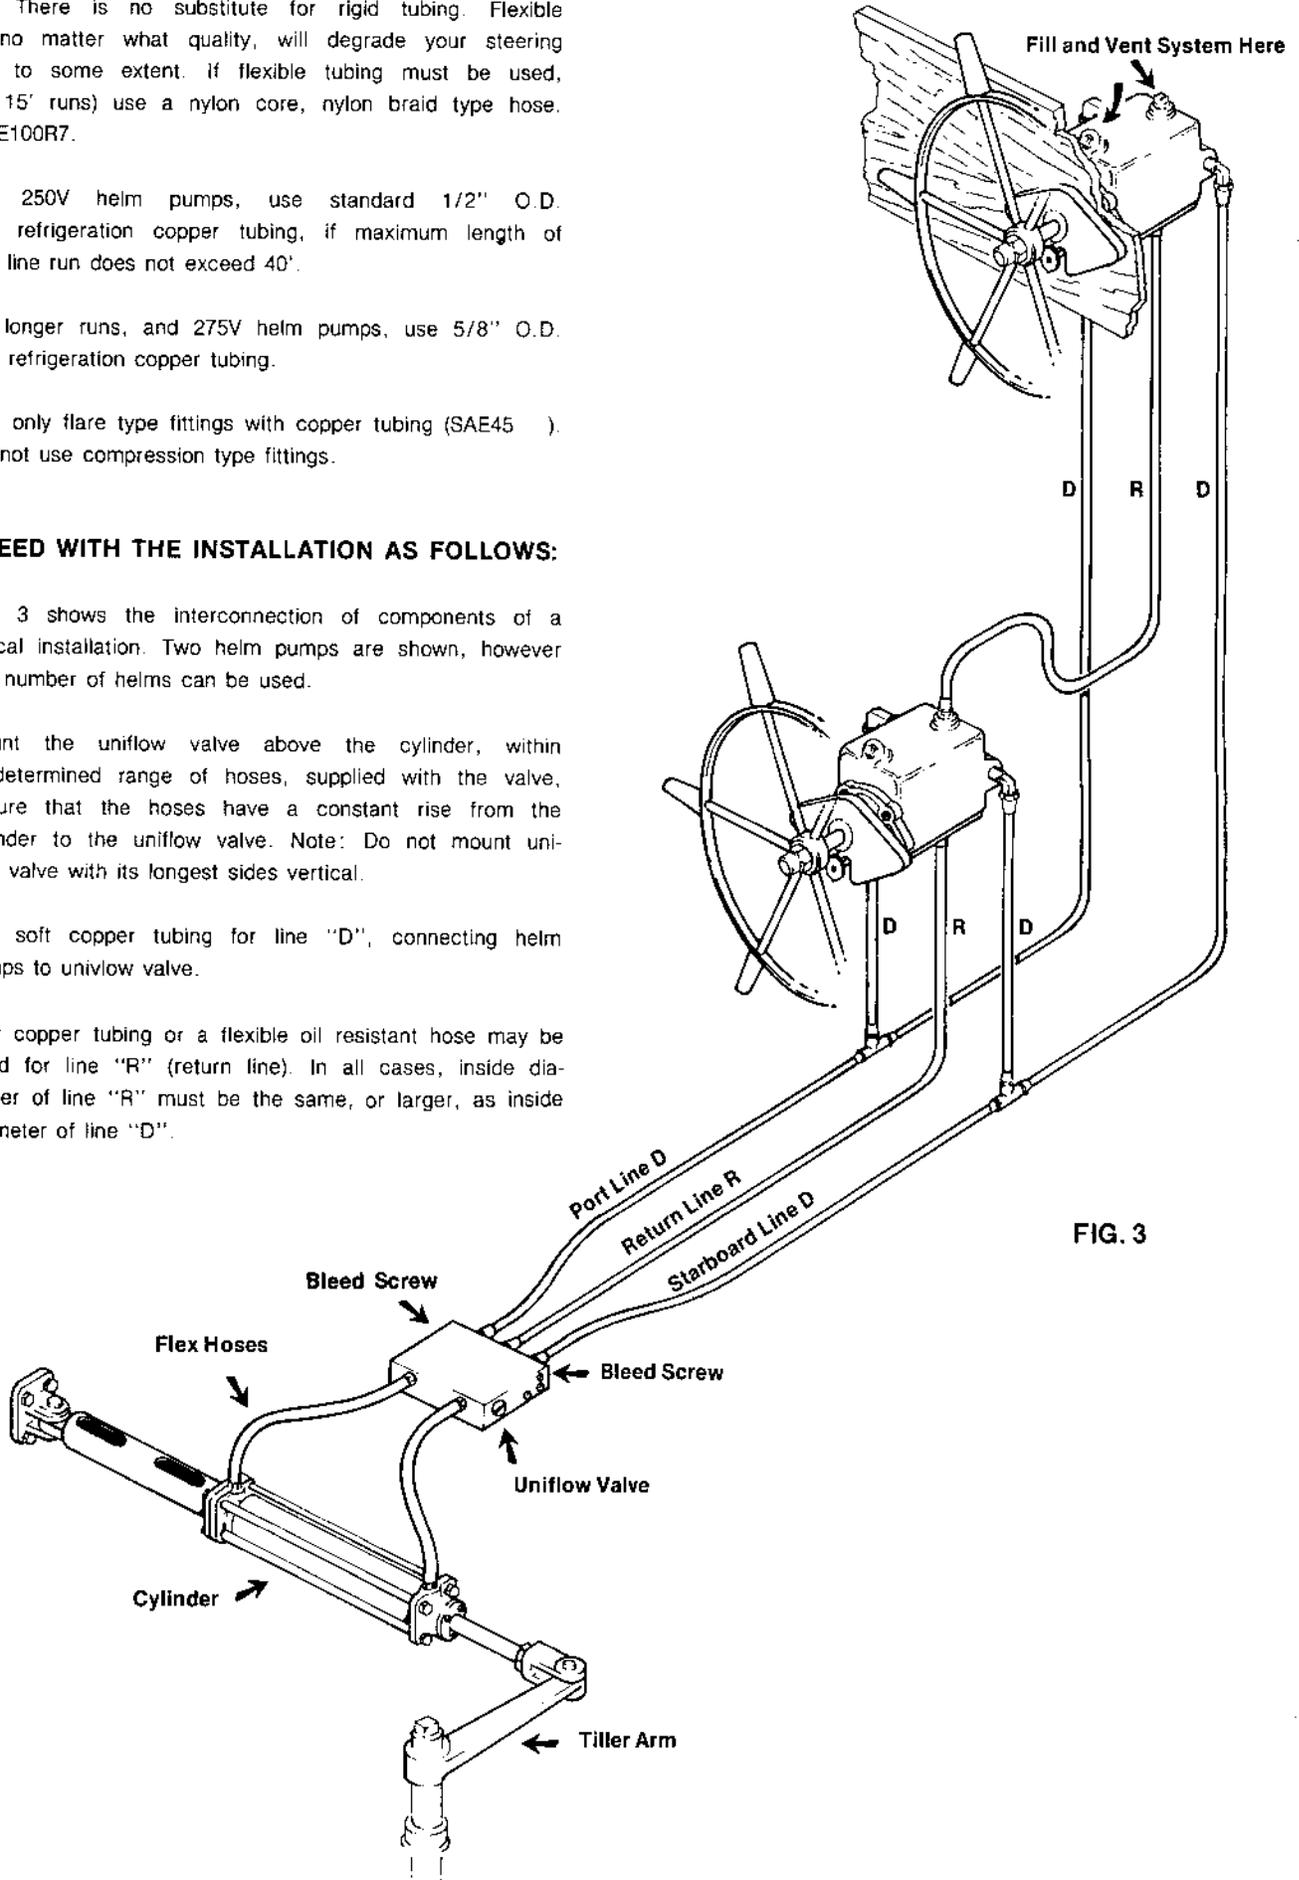

FIG. 3
- Fig. 3 shows the interconnection of components of a typical installation. Two helm pumps are shown, however any number of helms can be used.